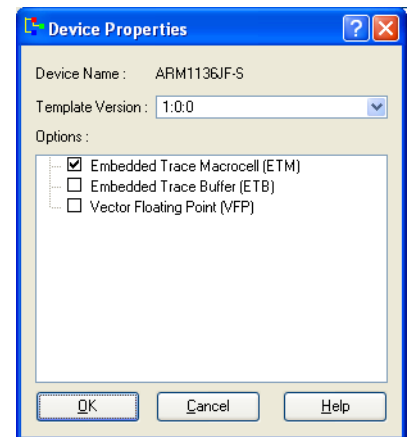

Figure B-2 Device Properties dialog box
8. Select **Properties...** from the context menu to display the Device Properties dialog box. Figure B-2 shows an example: